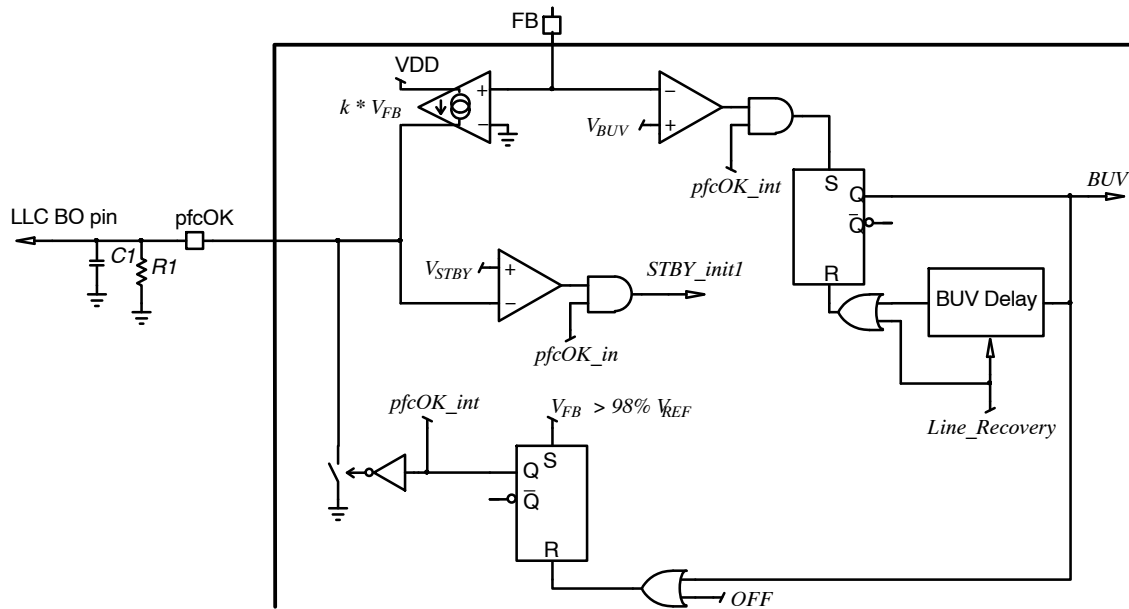

Figure 17. *pfcOK* Block
Practically, the *pfcOK* pin is grounded when the PFC stage enters operation and remains in low state until the output voltage has nearly reached its nominal level (practically when V_{FB} reaches 98% V_{REF}). At that moment, the *pfcOK* pin sources a current proportional to the feedback voltage ($k \cdot V_{FB}$). See Figure 17. Placing an external resistor between the *pfcOK* and GND pins, we obtain a voltage V_{pfcOK} which is proportional to the bulk voltage and can serve as a feedforward signal for the downstream converter. k typical value is 10 $\mu\text{A/V}$ so that the *pfcOK* pin typically sources 25 μA when the FB voltage is 2.5 V (regulation level).
The high voltage (HV) pin is a multi-functional pin, which in addition to the startup current source, provides access to the brownout, line sag, line range detectors and X2 capacitor discharge. The brownout / line-sag detector detects too low line levels and the line range detector determines the presence of either 110 V or 220 V ac mains. Depending on the detected input voltage range, the NCP1618 internally adjusts device parameters to optimize the system performance. Line and neutral are diode “ORed” before connecting to the HV pin as shown in Figure 17. The diodes prevent the pin voltage from going below ground.
- Resets the BUV timer. It is because a long line-sag event is likely to cause a BUV detection. When a BUV fault is detected, no restart is possible until the BUV timer has elapsed. If a BUV fault is detected during a line-sag sequence, we want operation to be resumed as a soon as the line recovers (see Figure 17).